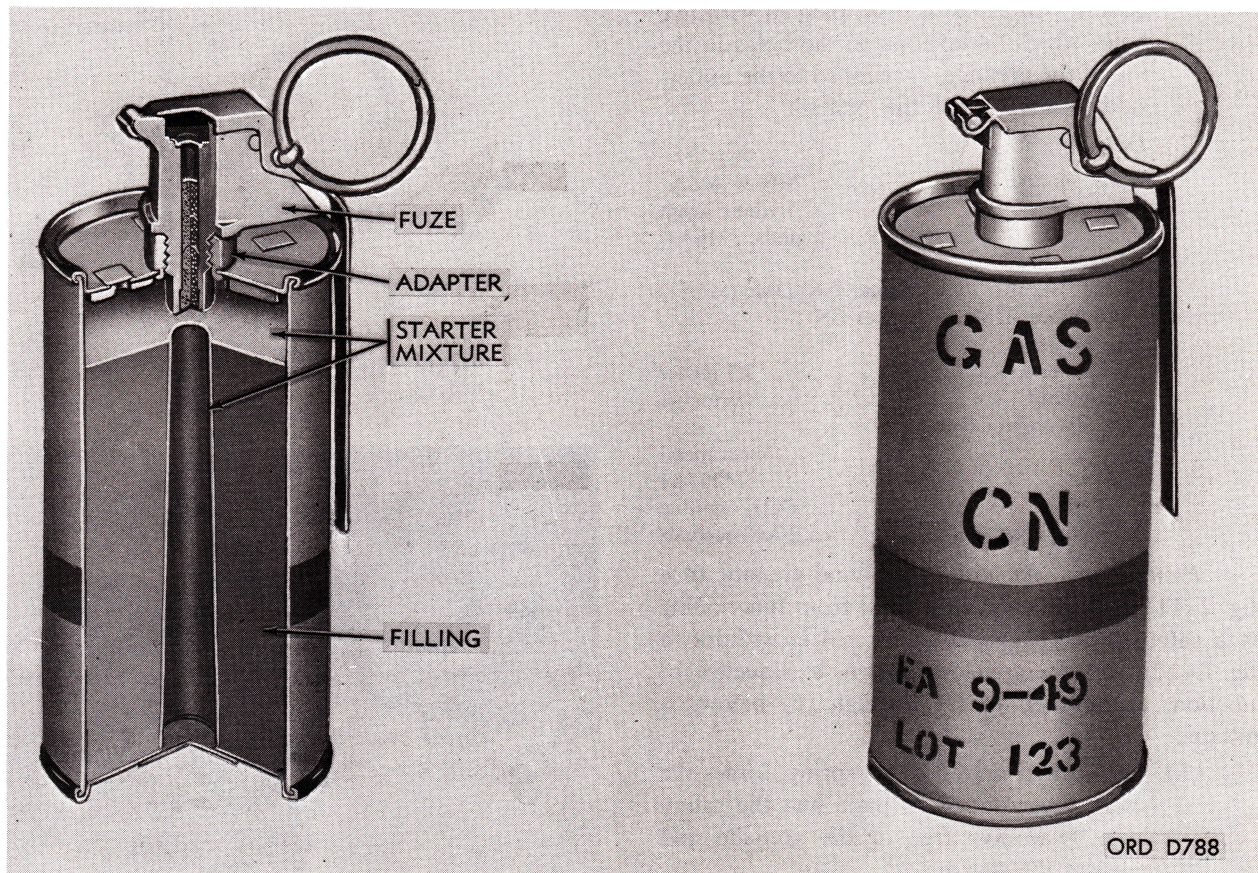

Figure 2-13. Grenade, hand: riot, CN, M7A1, w/ fuze M201A1.
a. *General.* Grenade M7 and M7A1 (fig. 2-13) are irritant-agent grenades used primarily to control riots, mobs, and other disturbances. Grenade M7 and M7A1 can also be used to simulate casualty agents during training of personnel.
- (1) Grenade AN-M14 is a cylindrical container filled with 26½ ounces of incendiary mixture and fitted with a grenade igniting fuze M201A1 (fig. 2-13). The body of the grenade is a thin-sheet-metal cylinder 2.5 inches in diameter and 4.5 inches high,